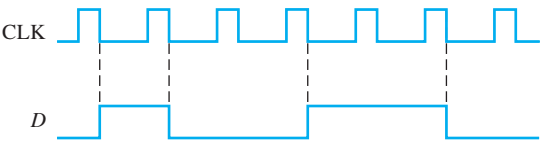

FIGURE 7-79
10. Draw the Q output relative to the clock for a D flip-flop with the inputs as shown in Figure 7-79. Assume positive edge-triggering and Q initially LOW.